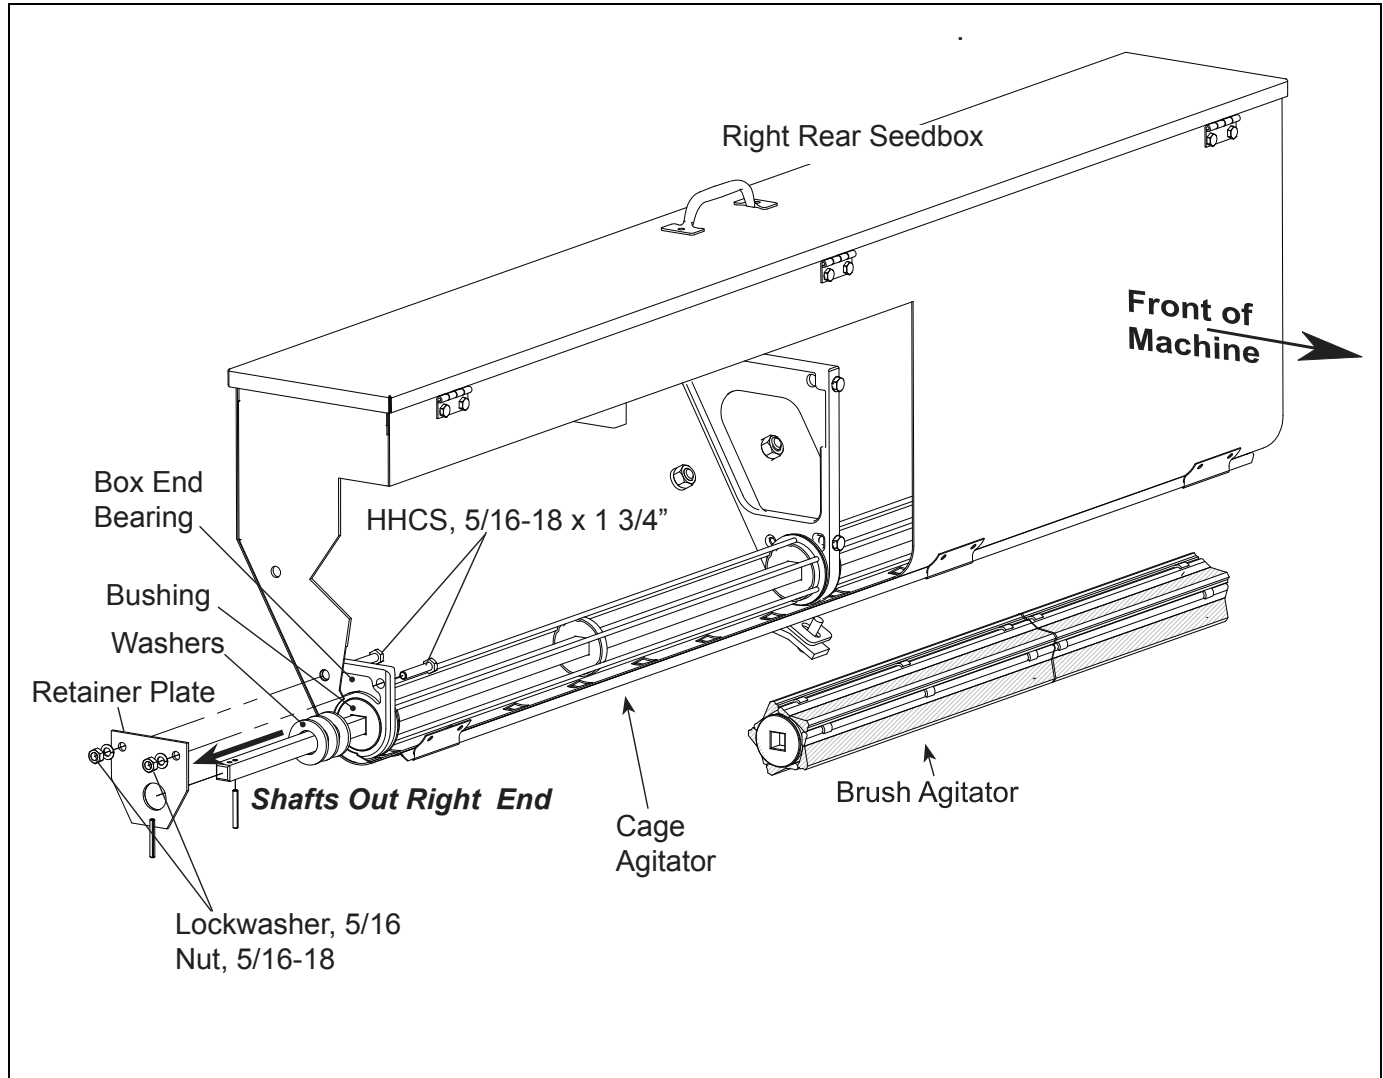

Figure 2-37: Brush Agitator (Optional)
4. Install the rear box reel washers on each end of brush agitators to prevent seed leakage out of the bushing and to reduce agitator end play between bearing brackets. With the brush agitators properly seated in the boxes, replace the drive shafts, end washers and retainer plate. The kit may also contain 8J804 shaft retaining clip. This clip is not used on SS8,10 and 12 foot seeders. See Figure 2-37.